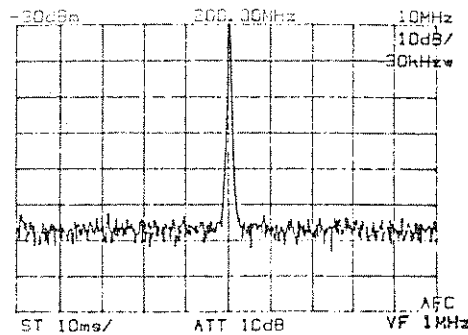

Figure 4-22 Setting the Measured Signal to the Center Frequency
- ③ Set the spectrum of the measured signal to the center of the screen (Figure 4-22).